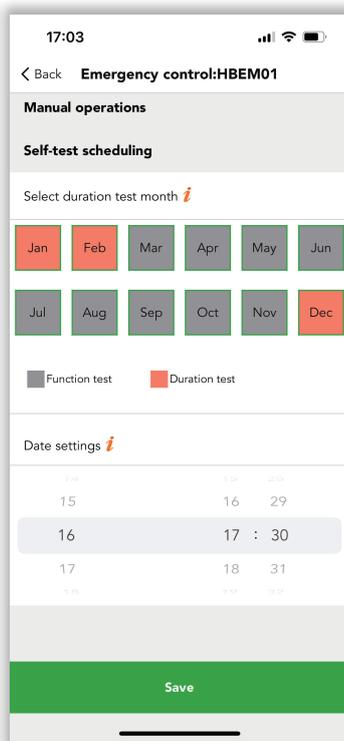

Figure 1.6 Self-test settings
4. Self-test scheduling which Koolmesh app will list out the schedule by month, user can set every month according to real application for "Function test" and "Duration test" (see figure 1.6)
5. Self-test scheduling which Koolmesh app will list out the schedule by month, user can set every month according to real application for "Function test" and "Duration test" (see figure 1.6)